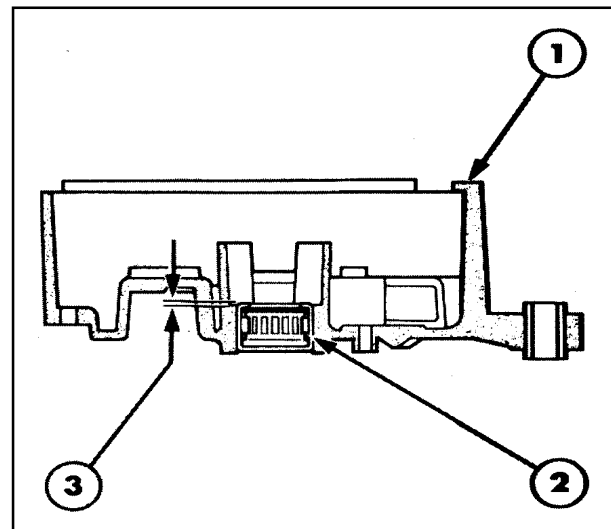

Figure 28
6. Press the new bearing into the housing. The bearing should be positioned 0.50-0.70 mm. (.020-.028 in.) proud of the inner face of the bearing boss, Figure 28.